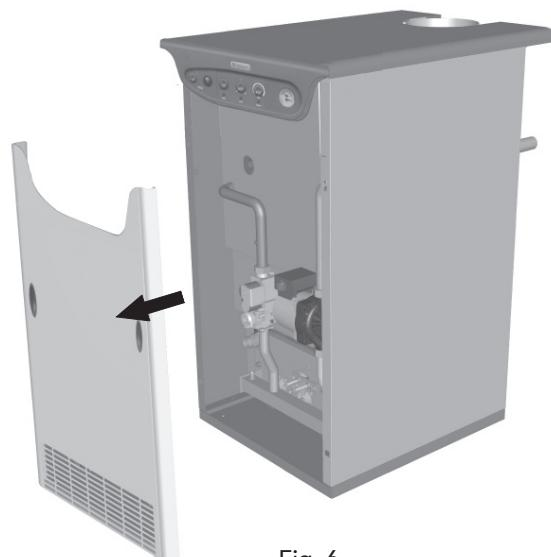

Fig. 6
To open the front panel, see the procedure in Fig. 6.
- Remove the front panel (fig. 6).